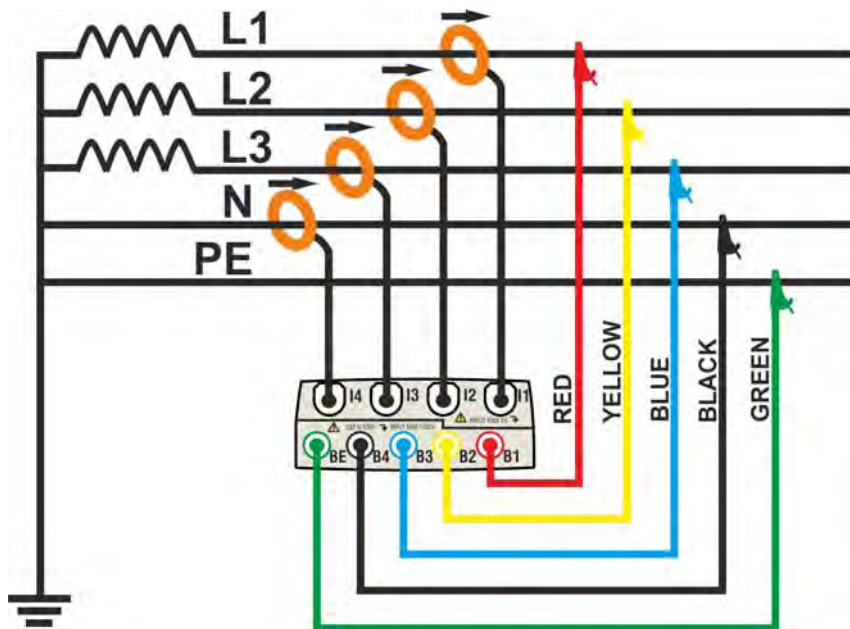

Fig. 117: Meter connection in a three phase 4-wire system – ENG_UK type
2. Connect voltage test leads on Phases L1, L2, L3, Neutral and Ground cables considering the colours as shown in Fig. 117. **Verify the result “123” at display relative to a correct phase sequence indication** (see § 5.2.1) and perform the corrections if necessary.